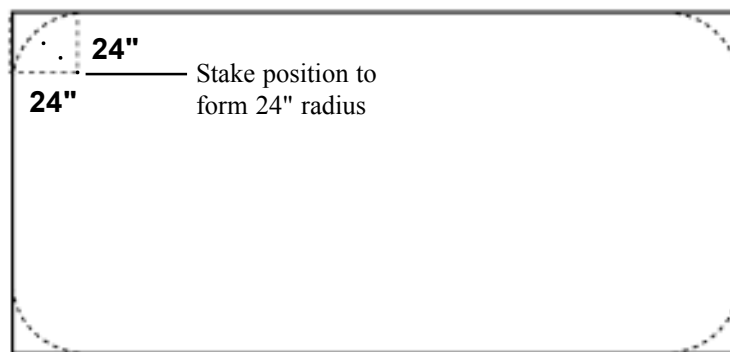

Figure 2: Creating 24" radius corners
To do this simply place a mark 24" from each corner along the length and width of the pool. From each mark, mark a line 24" in towards the middle of the pool from each point. You should now have formed a square. **See fig 2.**
5. Using a string line 24" long and a stake, position the stake in the corner of the square and using the string line create an arc to form the 24" radius corner (see fig 2). Repeat on the other three corners.